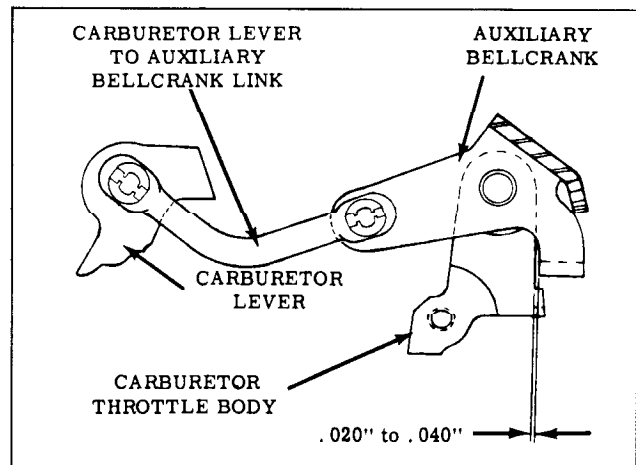
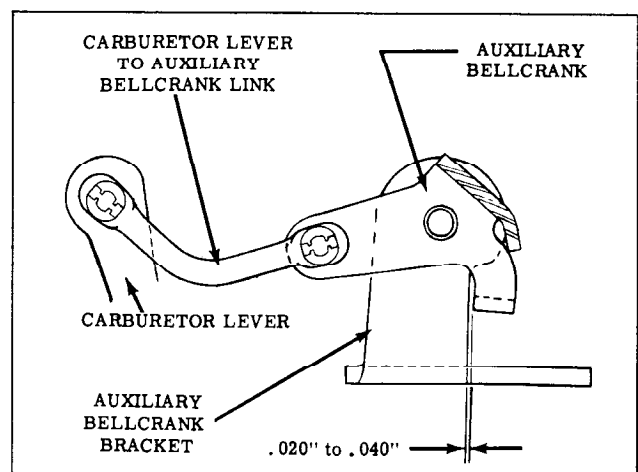

Fig. 3-137 Checking Carburetor Link (4 Bbl.)
Fig. 3-138 Checking Carburetor Link (2 Bbl.)
- Measure clearance as shown in Fig. 3-137 (four barrel) or Fig. 3-138 (two barrel) with feeler gauge. To obtain proper clearance of .020" to .040" remove link "C" and bend. Reinstall link and recheck clearance. Link can be installed up or down.